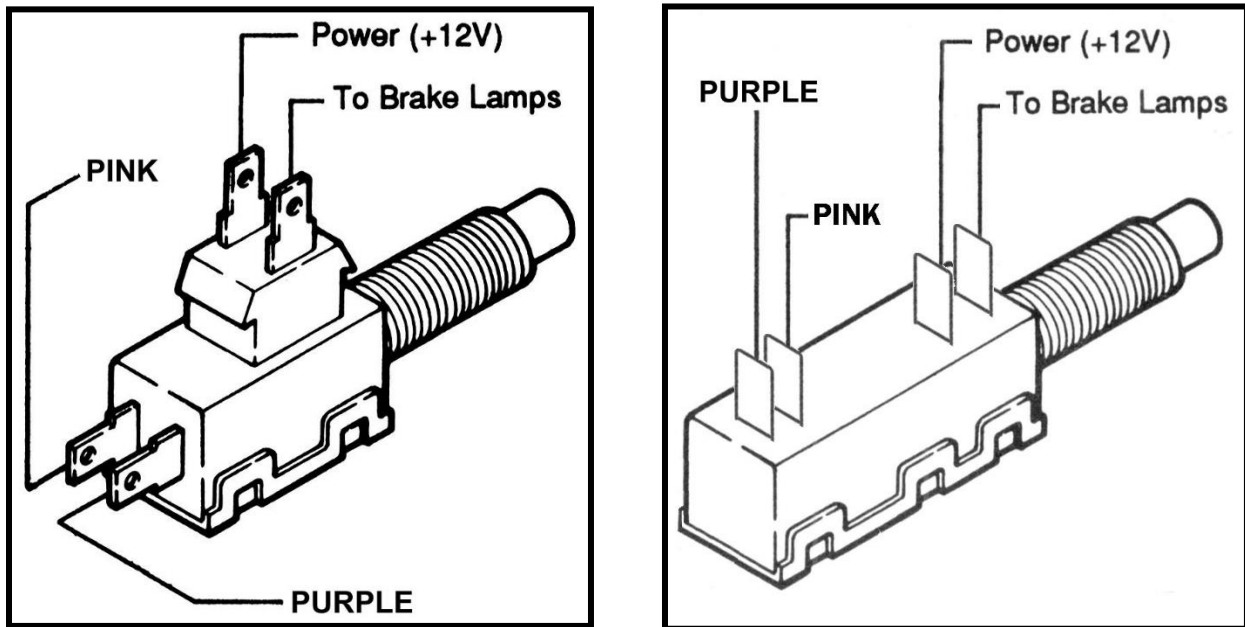

FIGURE 6.2 Brake Switch Connections
- F. If you are using the recommended brake switch then you will wire it according to **Figure 6.2**. The **PINK** wire to the back of the switch in the illustration is the wire that has power on it whether or not the brake is being applied.